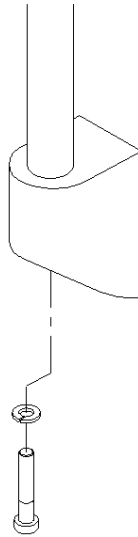

Figure 2
6. Power off the machine and locate the screw under the lower IV pole holder (see Figure 2).